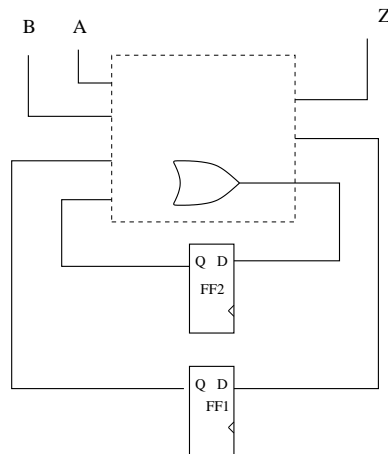

Figure 10: Figure for combinational part of the sequential circuit
- (a) (2 points) In the figure 10 below I have provided two FFs and a box for the combinational part of the circuit. Redraw the combinational part of circuit in the box and make all the connections. Note the FF labels: FF2 is drawn above FF1.